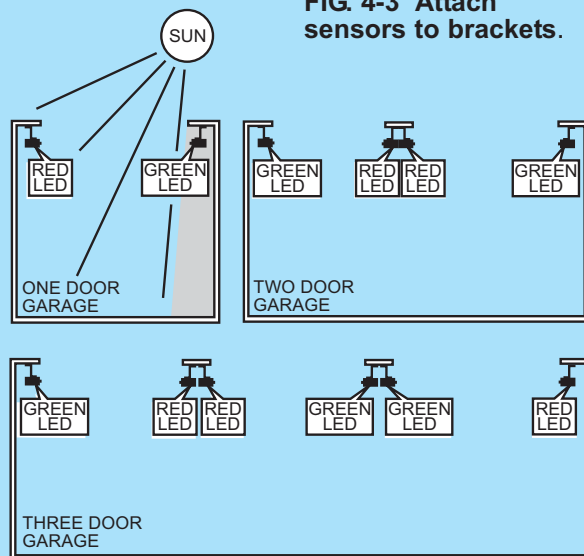

FIG. 4-4 Safety Beam source and sensor locations.
- Determine which side of garage receives most direct sunlight (Fig. 4-4).
- Red LED should always be on sunny side whenever possible (Fig. 4-4).
- Place source and sensor modules on adjacent doors facing in opposite directions (Fig. 4-4).